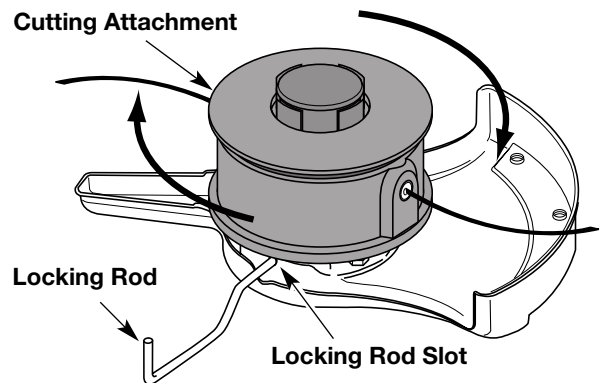

Fig. 9
2. While holding the locking rod, remove the cutting attachment by turning it clockwise off of the output shaft (Fig. 9). Store the cutting attachment for future use.